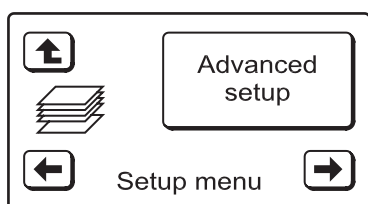

FIG. 69
2. Press the **LEFT** (←) button twice to display the screen shown in Figure 69.